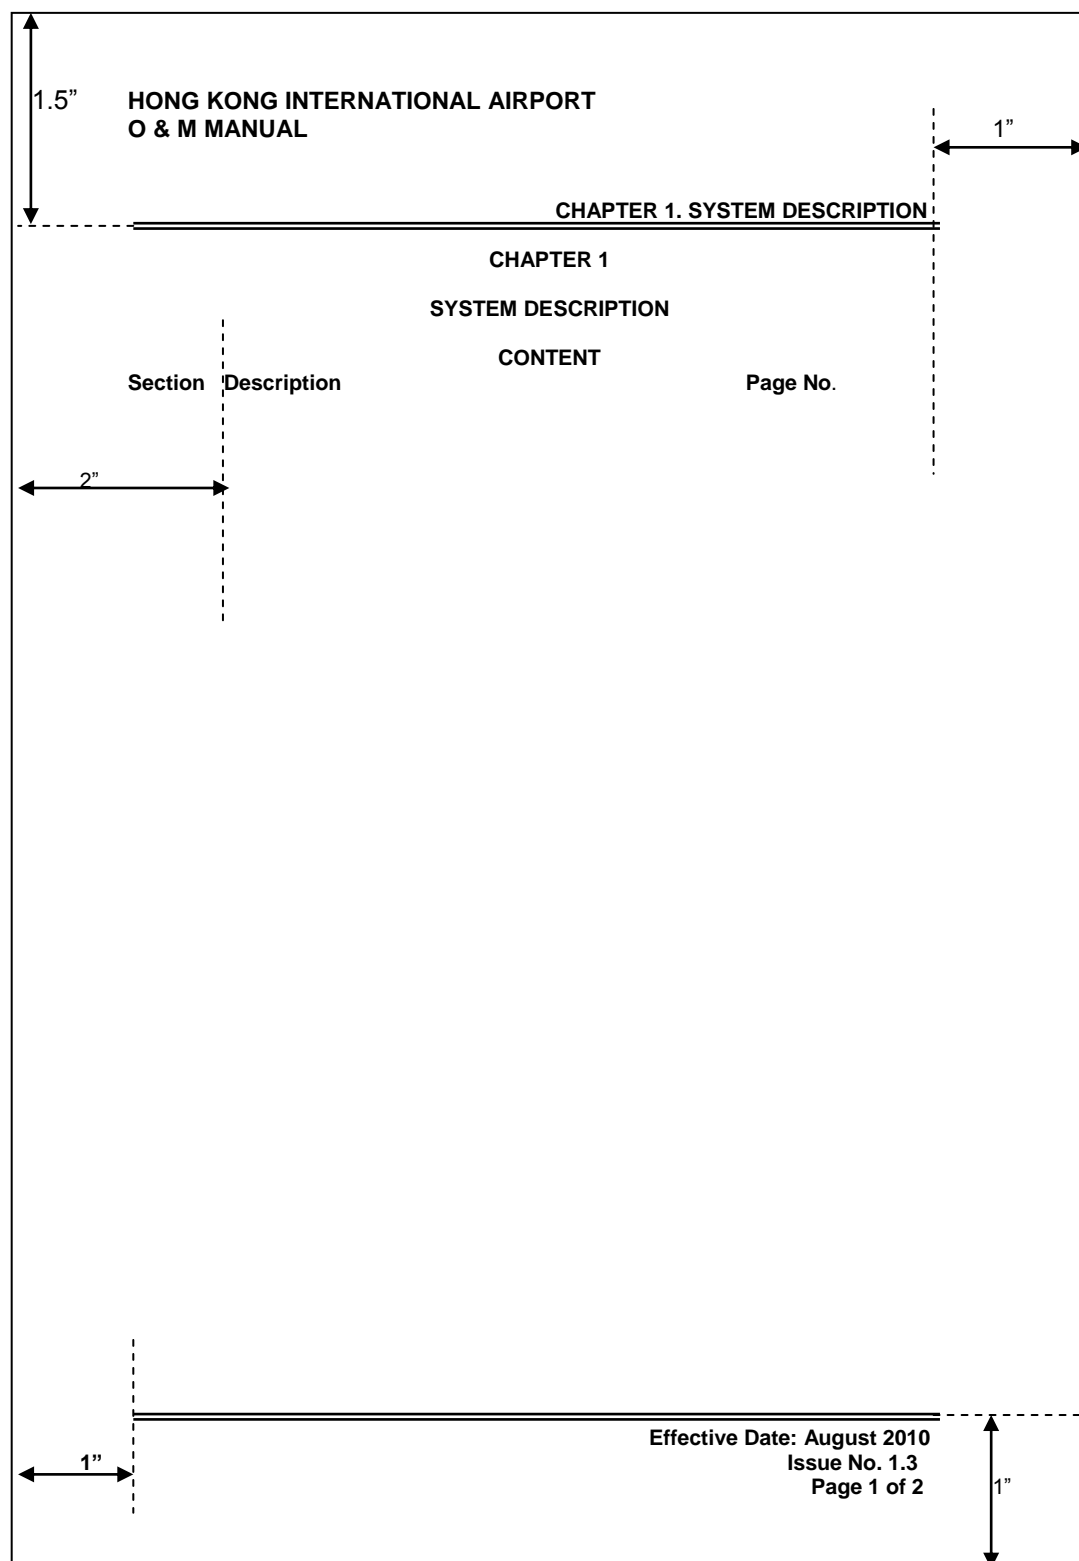

FIG 1.1 PAGE LAYOUT FOR MANUALS
- (a) A4 pages shall be used for all text. Illustrations shall be on either A4 or A3 pages. A portrait layout is preferred (that is with the longest edge vertical) but some diagrams may be accepted in landscape form. All pages shall be uniquely identified and dated. See Fig 1.1 Page Layout for Manuals for margin dimensions and positioning of headers and footers. Headings shall have a logical hierarchy and be keyed to the numbering system to facilitate easy accessing of information from the contents list. The paper used shall be white, 100 gsm weight and suitable for use in an operational environment.
- (b) All text shall be prepared in single column with justified left and right-hand margins. All pages shall be printed on one side only. The type style shall be Arial 10pt as standard. See Fig 1.1 for headings. Manual cover sheet shall use Arial 14pt and 16pt as standard as shown in Part 2.